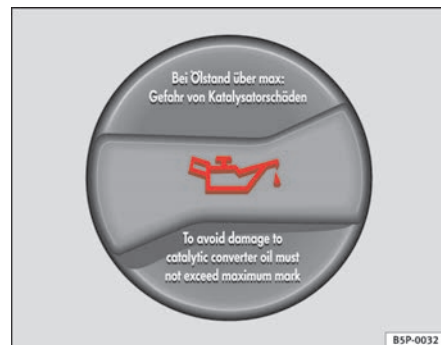

Fig. 117 In the engine compartment: Engine oil filler cap
- Unscrew cap from oil filler opening ⇒ **fig. 117**.